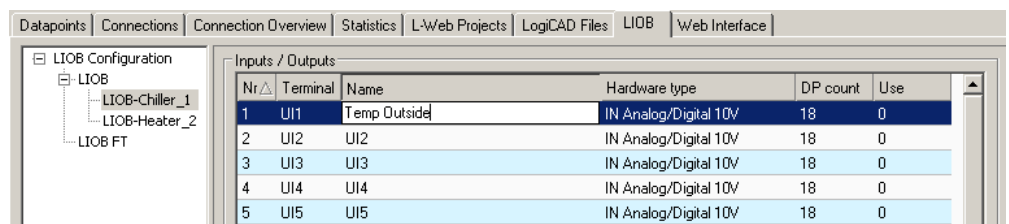

Figure 19: Change L-IOB terminal names for your installation.
- Select a L-IOB device in the tree on the left-hand side and enter names for the terminals by double-clicking into the **Name** column as shown in Figure 19.